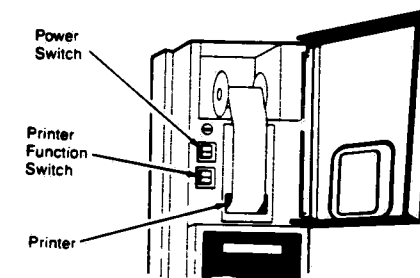

FIGURE 2-1 - Printer
- **Sterilizer Power Switch** - located behind the printer door (Figure 2-1), this switch controls power to the sterilizer and sterilizer control.
Printer (Figure 2-1)